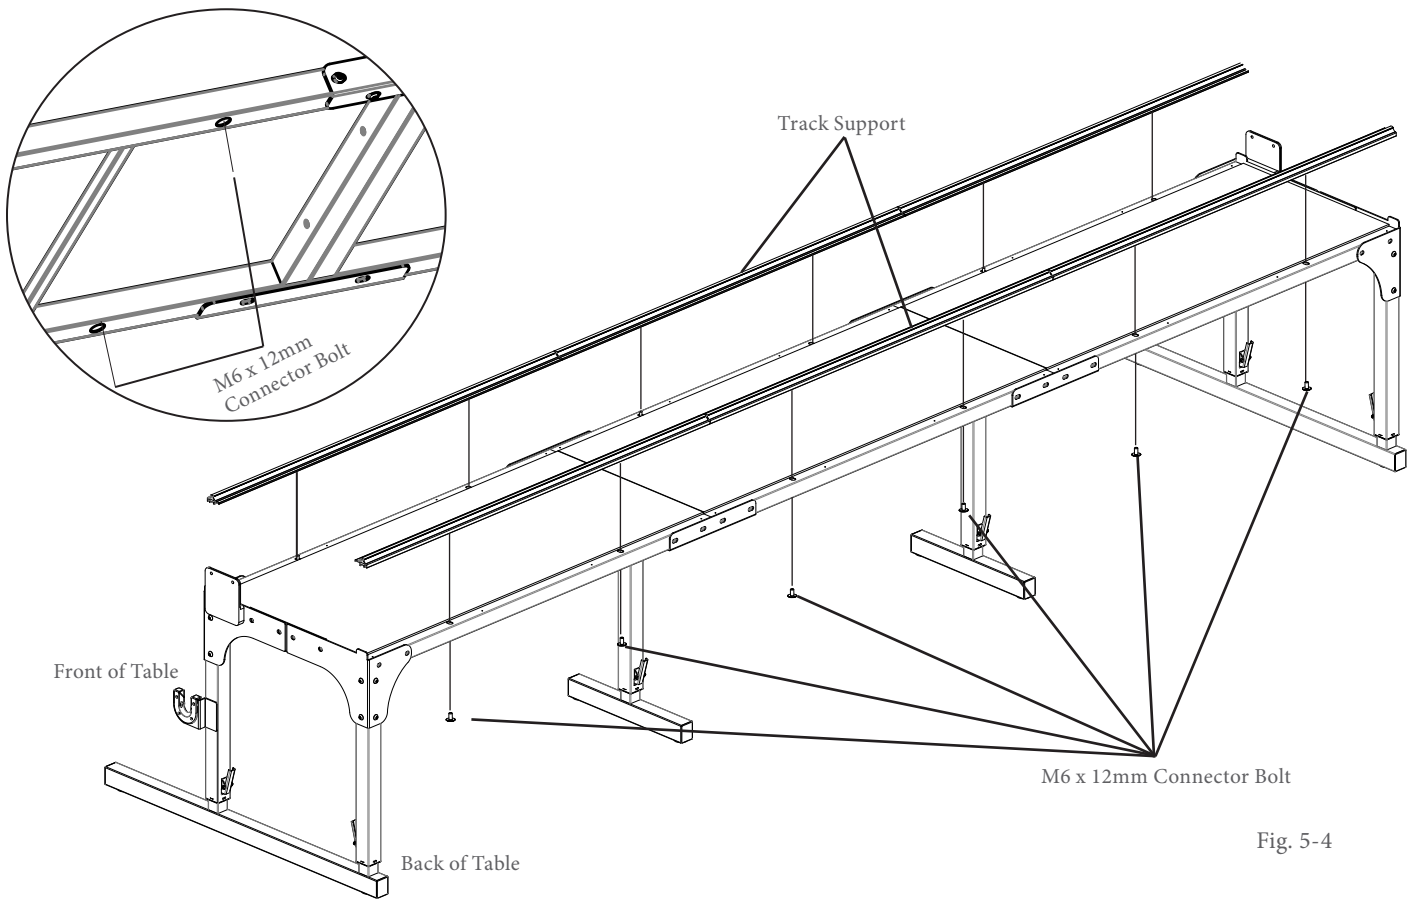

Fig. 5-4
5-8: Attach Tracks. Secure one assembled track to the back of the quilting frame. Line up the track support by holding it tightly against the plastic tabletops you secure it to the frame, using six (6) M6 x 12mm connector screws, as shown in Fig. 5-4. **IMPORTANT:** Do not tighten screws at this time. They need to be loose to accommodate adjustments in Step 5-9. In same manner, attach the remaining track support to the front of the frame using six (6) M6 x 12mm connector bolts.